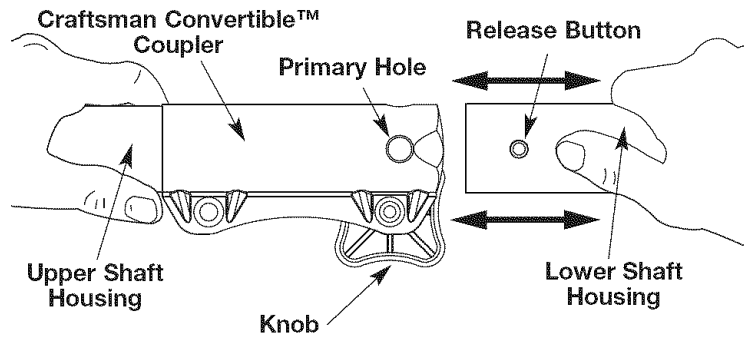

Fig. 2
3. While firmly holding the attachment, push it straight into the coupler until the release button snaps firmly into the primary hole (Fig. 2).
**CAUTION:** Lock the release button in the primary hole (Fig. 2) and securely tighten the knob before operating this unit.
2. Press and hold the release button (Fig. 2).
3. While firmly holding the upper shaft housing, pull the hedge trimmer attachment out of the coupler (Fig. 2).